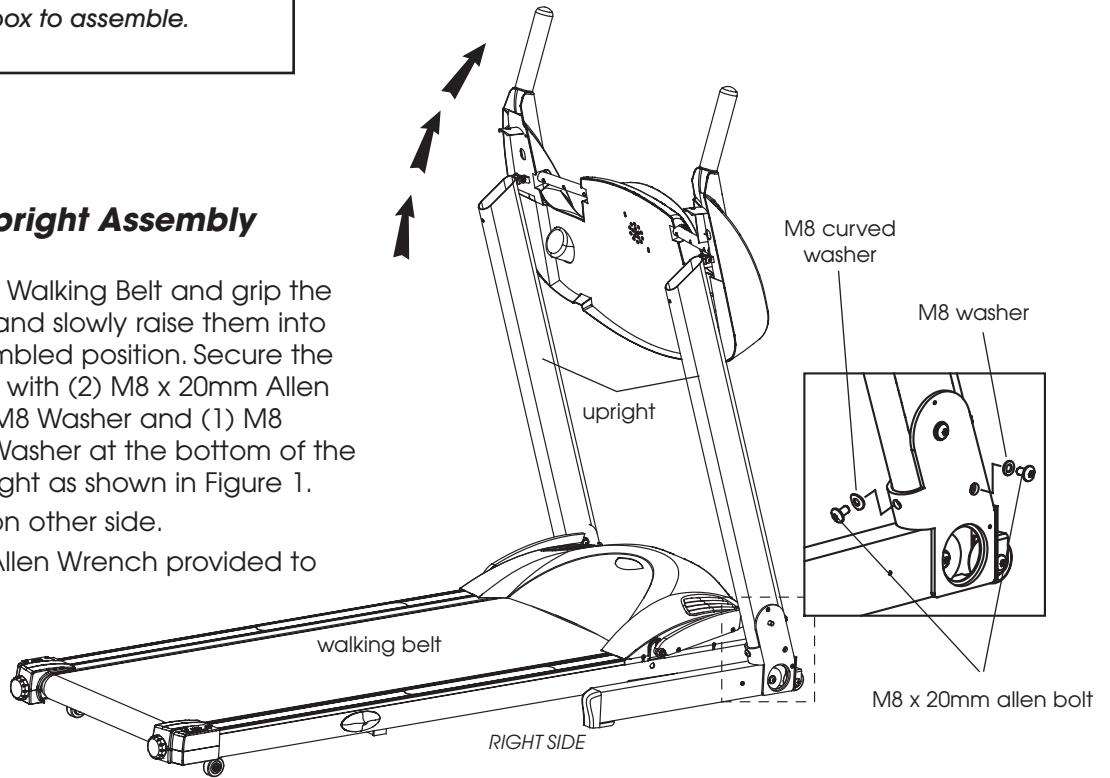

Figure 1 - Install Uprights
- Stand on Walking Belt and grip the uprights and slowly raise them into the assembled position. Secure the right side with (2) M8 x 20mm Allen Bolts (1) M8 Washer and (1) M8 Curved Washer at the bottom of the right Upright as shown in Figure 1. Repeat on other side.